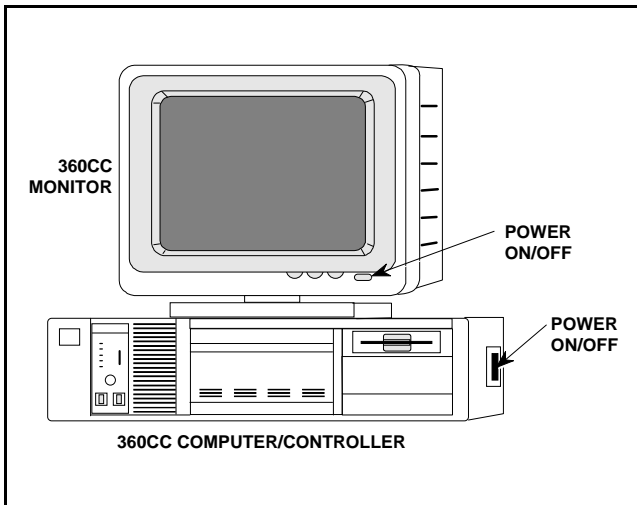

Figure 3-9. 360CC Power Switch Locations
1. On the computer/controller's monitor, press the POWER ON-OFF switch to the ON position. (Figure 3-9)
2. On the computer/controller, place the red POWER ON-OFF switch, located on the left-hand side panel, to the ON position (Figure 3-9).